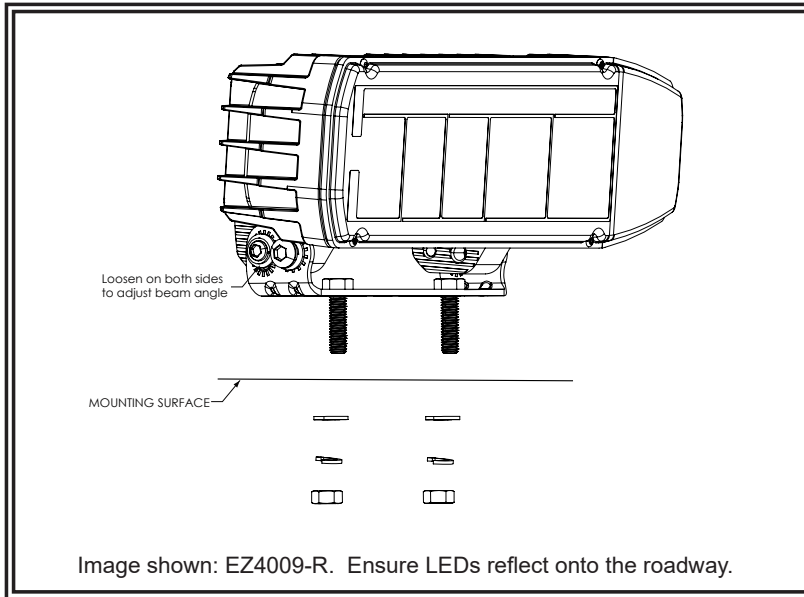

FIGURE 1
2. Secure the light head with the supplied hardware as shown in Figure 1. Adjust the beam angle as needed before ensuring all hardware is tightened.